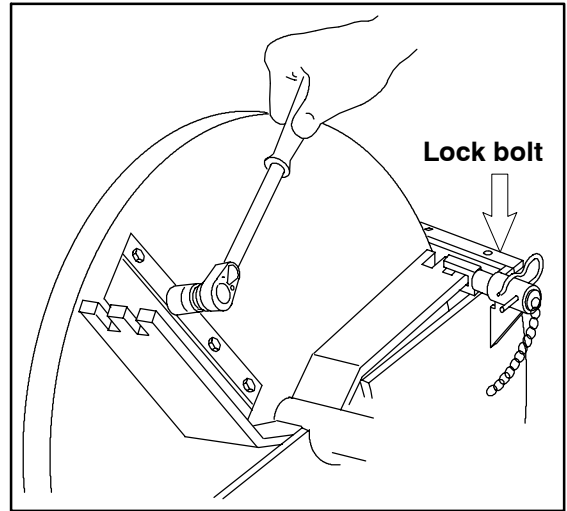

Fig.20.
3.Lock the disk with the lock bolt, fig. 20.
- 3.Lock the disk with the lock bolt, fig. 20.
- 5.Remove the four locknuts behind the knife frame (socket size 11/16" or 17mm). See fig 20.